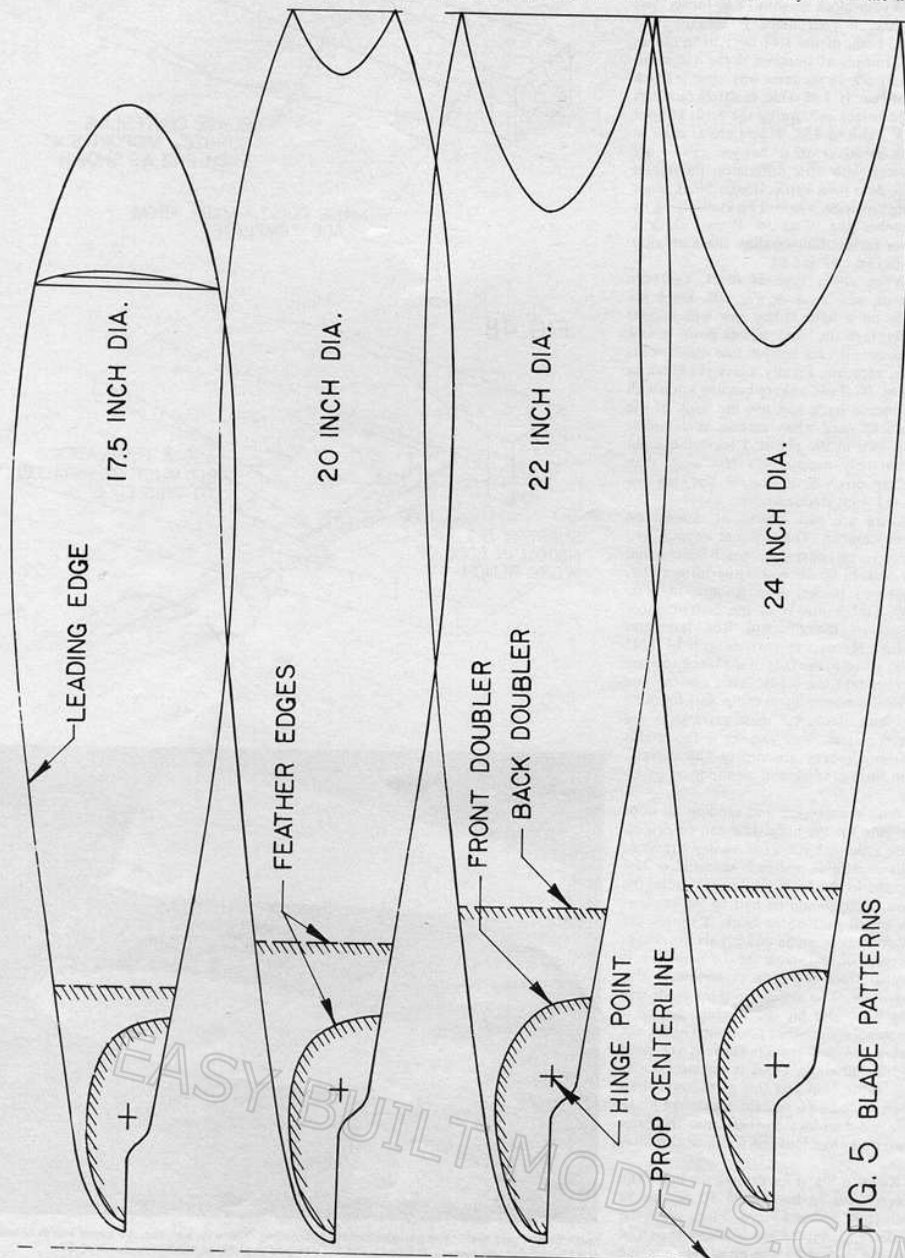

FIG. 5 BLADE PATTERNS
When the block is drilled and checked, the blade outline should be marked on the block. Make blade templates from tablet cardboard or plywood, using the blade shapes shown in Fig. 5. Lay the template on the block, carefully lining up the blade centerline and checking to see that the blade is the correct distance from the center. Mark around the template on the block with a soft pencil or marking pen. After cutting a piece of brass tubing a bit longer than the hole and the same diameter, you are ready to proceed with making your front end assembly.
**Making the blades:** For blades I use layers of 1/16 balsa with 1/32 birch plywood reinforcements at the blade root. Two layers of 1/16 balsa are adequate for all but the largest props. A 24-in. diameter prop running on 16 strands of 1/4 inch rubber should probably have a third layer of 1/16 balsa for more strength toward the blade root. I made one prop with two layers of 1/16 balsa and a layer of 1/64 birch plywood on the back side and was not happy with the results. The ply did not want to lie smoothly on the block and, furthermore, the 1/64 plywood was not adequate reinforcement for the hinge. However, you can see that there are many possibilities with materials. For Coupe, I use soft or medium balsa, and medium or hard for the bigger models. The back layer should be at least medium to hold reasonably sharp leading and trailing edges. Cut the required number of layers for both blades as well as the plywood doublers. Cut the front doubler to the outline shown in Fig. 5. For the back doublers, cut them oversize on three sides. For easier balancing cut both back layers from the same sheet, both front layers, etc. Sand a feather edge on the doublers as indicated in Fig. 5 and you are ready to begin laminating.
running the drill with your right. (You south-paws do your standard conversion.) Apply very light pressure with the drill and restrain the blade such that it remains untwisted while drilling. This procedure will confine the inaccuracy to the inner, less important part of the blade. Trim off the excess edges of the back doubler and carve and sand the blade to the airfoil shape shown in Fig. 5. Cut a piece of brass bushing to reinforce the hinge hole. It should be about  $\frac{3}{8}$  to  $\frac{7}{16}$  inches in length. Epoxy or Hot Stuff it into place. The blades can be doped only, or they can be covered with tissue or silk. I've done it all three ways but generally use tissue on Coupes, dope on Unlimiteds, and silk on Wakes.